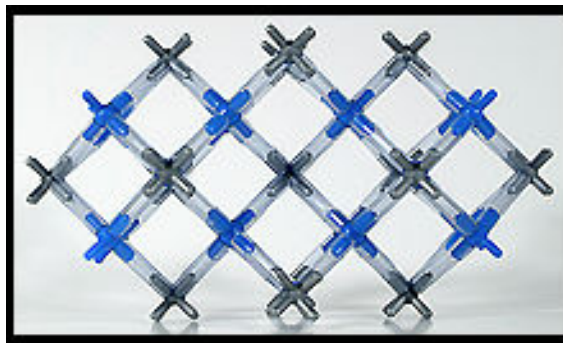

Fig. 8 Bonding four calcium ions.
6. Put two tubes on each of four silver ions, making sure that the pegs of the ions are next to each other. Join the calcium ions to the four blue pegs pointing in toward the center of the model. See Fig. 8.